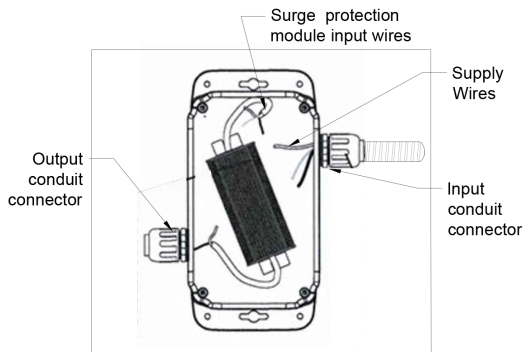

Fig.2 Front Section
3. Feed supply wires and liquid-tight nonmetallic flexible conduit into 1/2" INPUT conduit connector. Pre-measure and cut flexible conduit to appropriate length. Tighten 1/2" INPUT flexible conduit connector to secure conduit. (fig 2)
4. Inside waterproof junction box, connect: (fig 2)